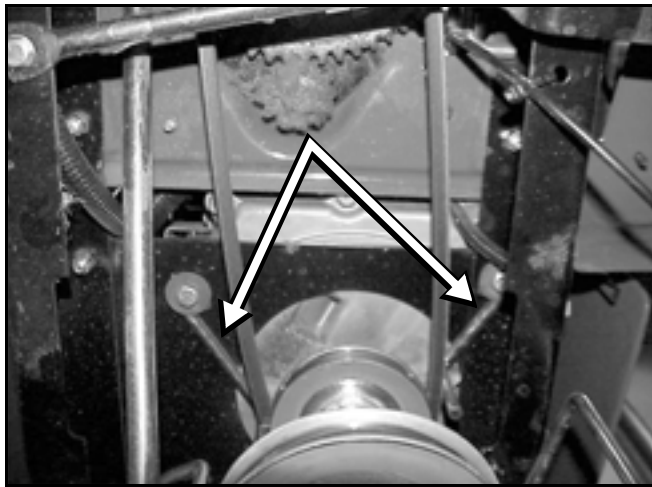

Figure 60
6. Loosen the right and left belt guides located on each side of the engine drive pulley (Figure 60). Remove the drive belt.